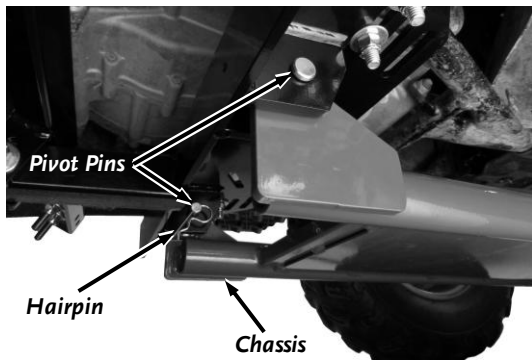

Figure 14
14. Install the Tree Cutter Chassis to the Universal Mount with the two Pivot Pins (head facing out) and Hairpins (pushed all the way on as shown) (Figure 14).
The TreeChopper can be quickly and easily installed or removed from the Universal Mount. To remove the TreeChopper simply remove the Hairpin Cotter Pins and Pivot Pins to drop the Chassis down onto the ground (**Figure 14** on page 14). The Head Assembly and Chassis can now be pulled away from the ATV. Install in the reverse order.